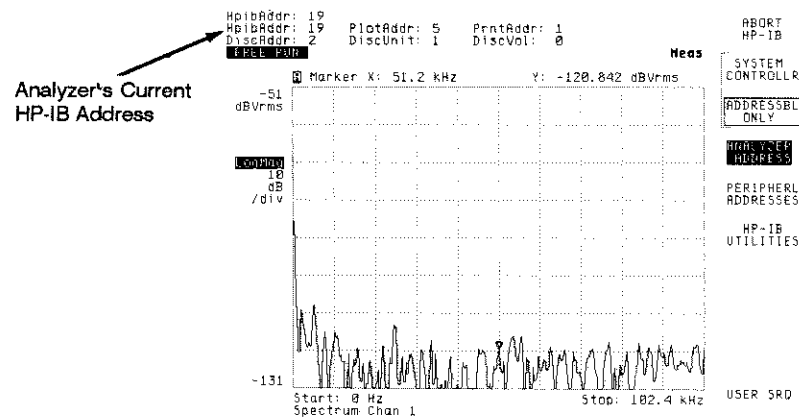

Figure 1-3. HP 35660A Screen After Pressing Local/HP-IB
4. Verify that the analyzer's address is set to 11. The current address setting is displayed in the HpibAddr field (see Figure 1-3). You can change the analyzer's address by pressing the ANALYZER ADDRESS softkey, then using the numeric keypad and the ENTER softkey to enter a new value. However, the instructions in the verification procedure assume that the analyzer address is set to 11.